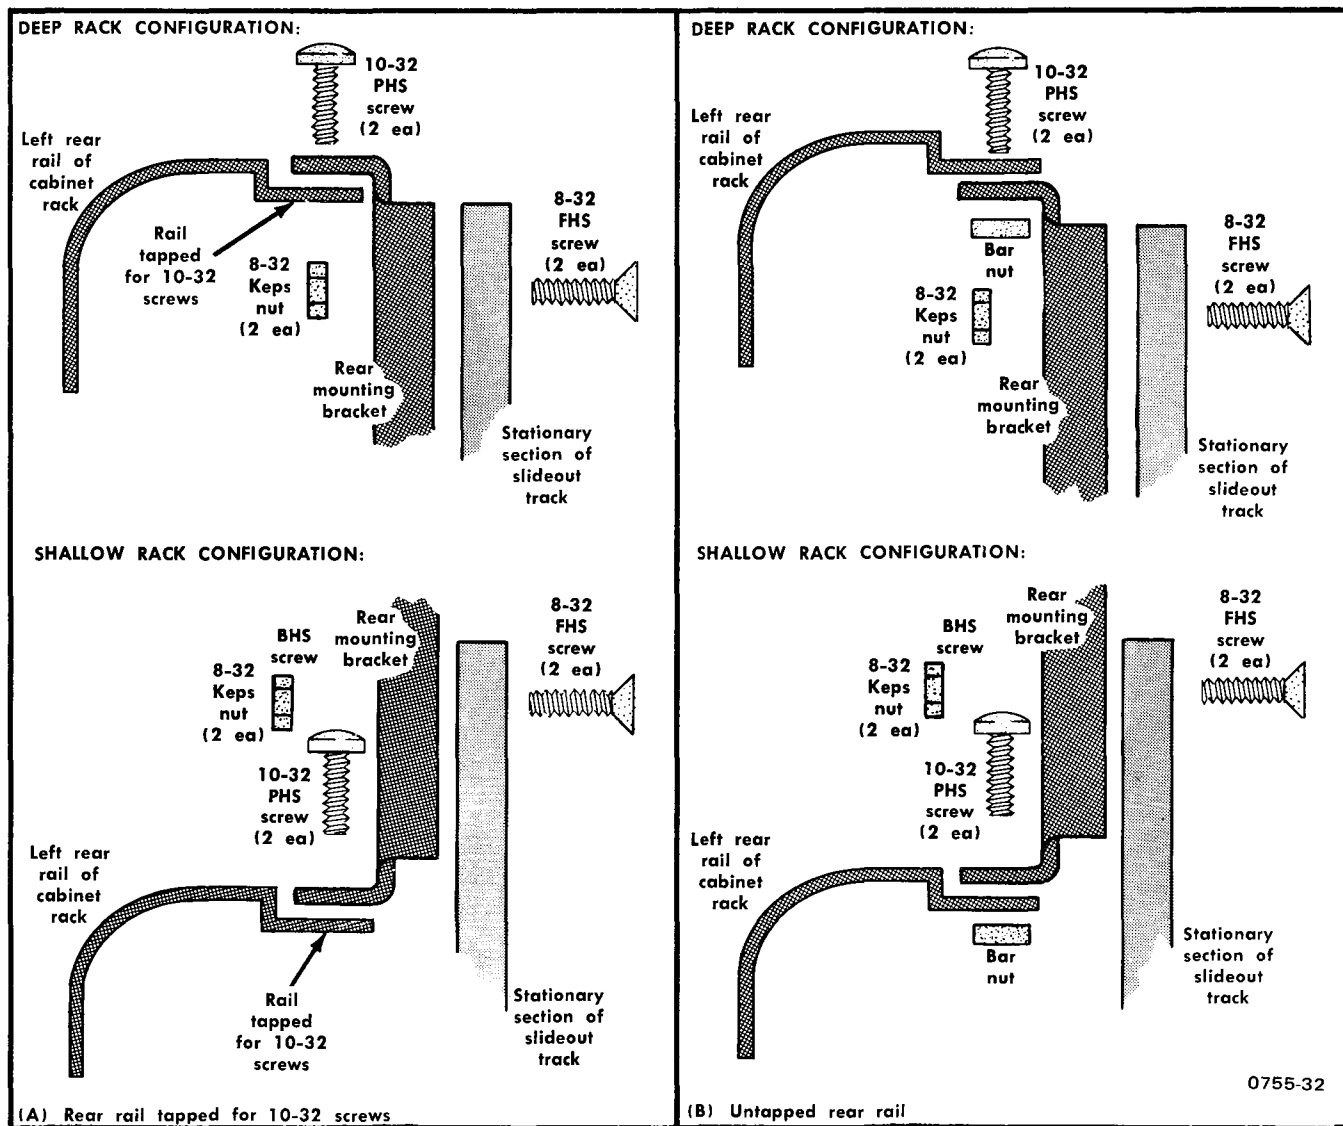

Figure 2-19. Alternative method of installing the instrument using rear support brackets.
An alternative method of supporting the rear of the instrument is shown in Figure 2-19. The rear support brackets supplied with the instrument allow it to be mounted in a rack that has a spacing between the front and rear rails of 11 to 24 inches. Figure 2-19(A) illustrates the mounting method if the rear rails are tapped for 10-32 screws, and Figure 2-19(B) illustrates the mounting method if the rear rails are not tapped for 10-32 screws. The rear support kit is not used for this installation.